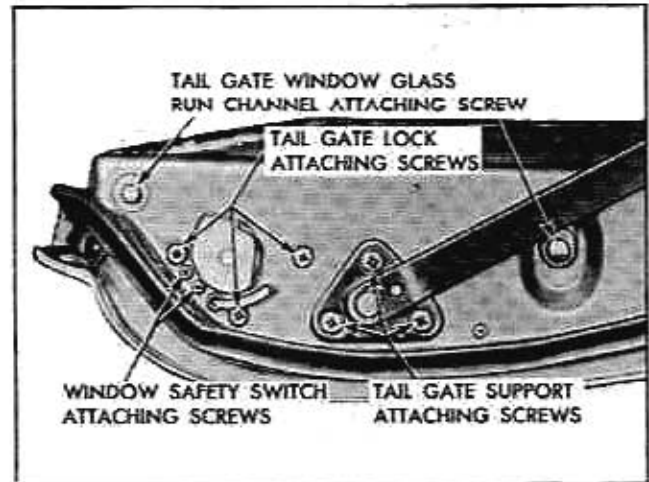

Fig. 4-22 Lock and Support
2. Remove tail gate window glass run side channel attaching screws (Fig. 4-22) and remove channel from side of tail gate from which lock is being removed.